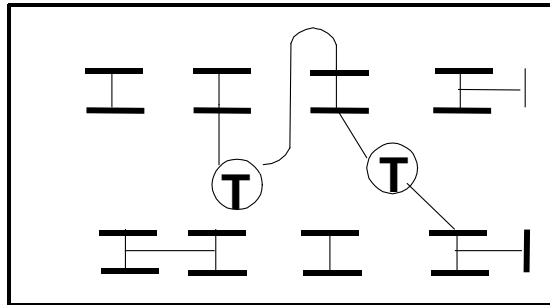

Fig. 7 Wired for 220VAC Operation
- Step 1: Wire Power Transformer Terminal block as illustrated in Figure 7.